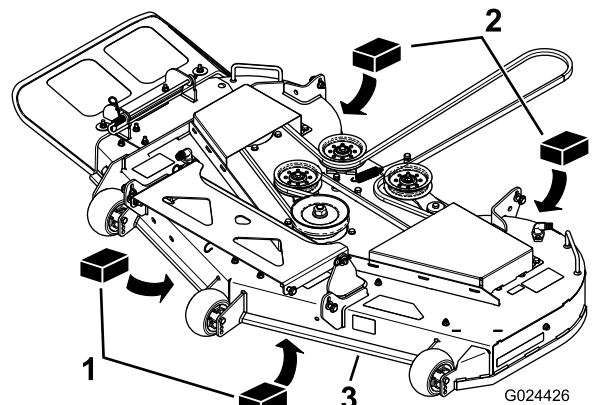

Figure 64
3. Place 2 6.6 cm (2-5/8 inches) blocks under each side of the front edge of the deck, but not under the anti-scalp roller brackets (Figure 64).
4. Place 2 7.3 cm (2-7/8 inches) thick blocks under the rear edge of the cutting deck skirt; one on each side of the cutting deck (Figure 64).